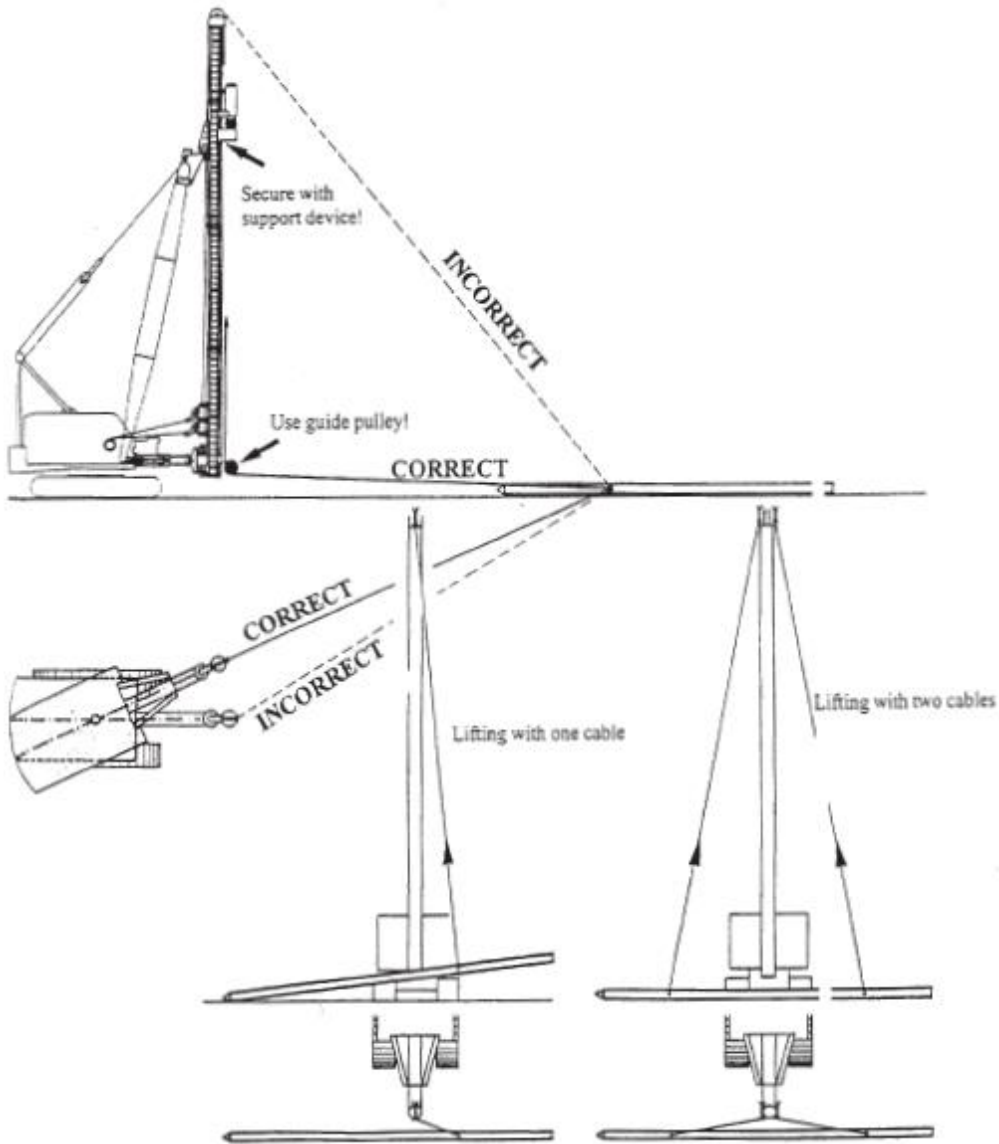

Fig. 12 – How to Lift the Pile
- Remove the locking screw (ref. 16 in Fig. 12)